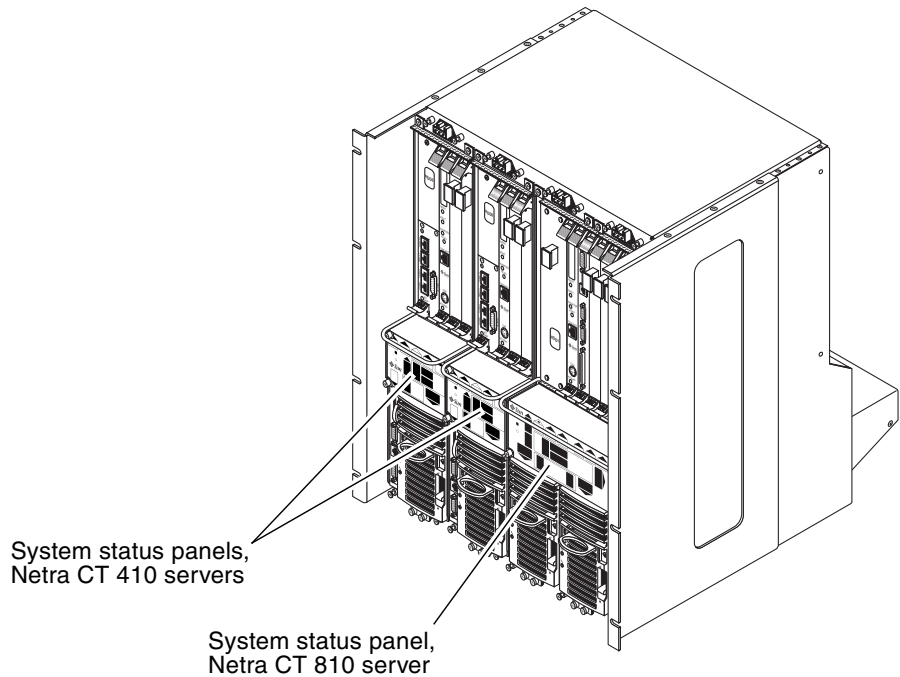

FIGURE 2-2 System Status Panel Locations
The location of the system status panel in the Netra CT 810 server and Netra CT 410 server is illustrated in FIGURE 2-2.
The location of the system status panels in the Netra CT 810 server and Netra CT 410 server is illustrated in FIGURE 2-2.
5. Go to the front of the Netra CT server and locate the system status panel (see FIGURE 2-2).